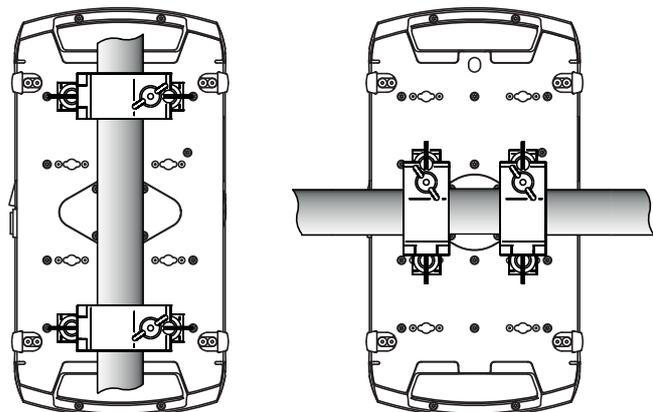

Figure 3: Clamp bracket positions
The mounting points in the base allow omega brackets and rigging clamps to be fastened as shown in Figure 3.
3. See Figure 3 on page 7. Align the first clamp and bracket with 2 mounting points in the base, and engage both the clamp bracket's quarter-turn fasteners in corresponding sockets in the base. See Figure 4. Turn the levers on the quarter-turn fasteners a full 90° clockwise to lock. Repeat for the second clamp.